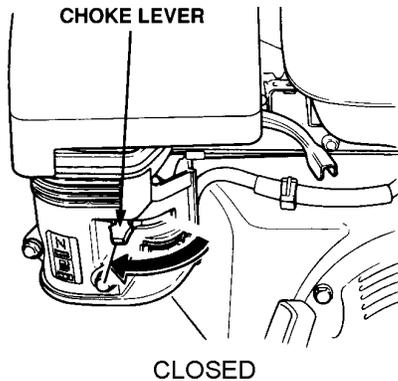

Figure 14. Choke Lever (Closed)
- If the engine has started, slowly return the choke lever (Figure 14) to the “CLOSED” position. If the engine has not started repeat steps 1 through 6.